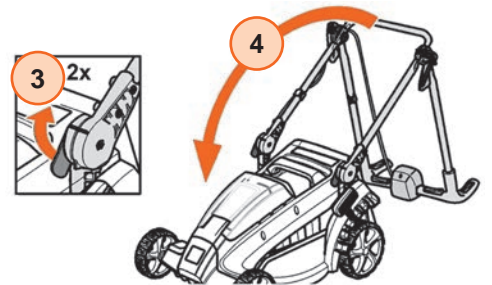

Figure 17
2. Loosen the quick-clamping levers on the housing ③ and move the lower handle forwards and put on the housing ④ (see Figure 17).